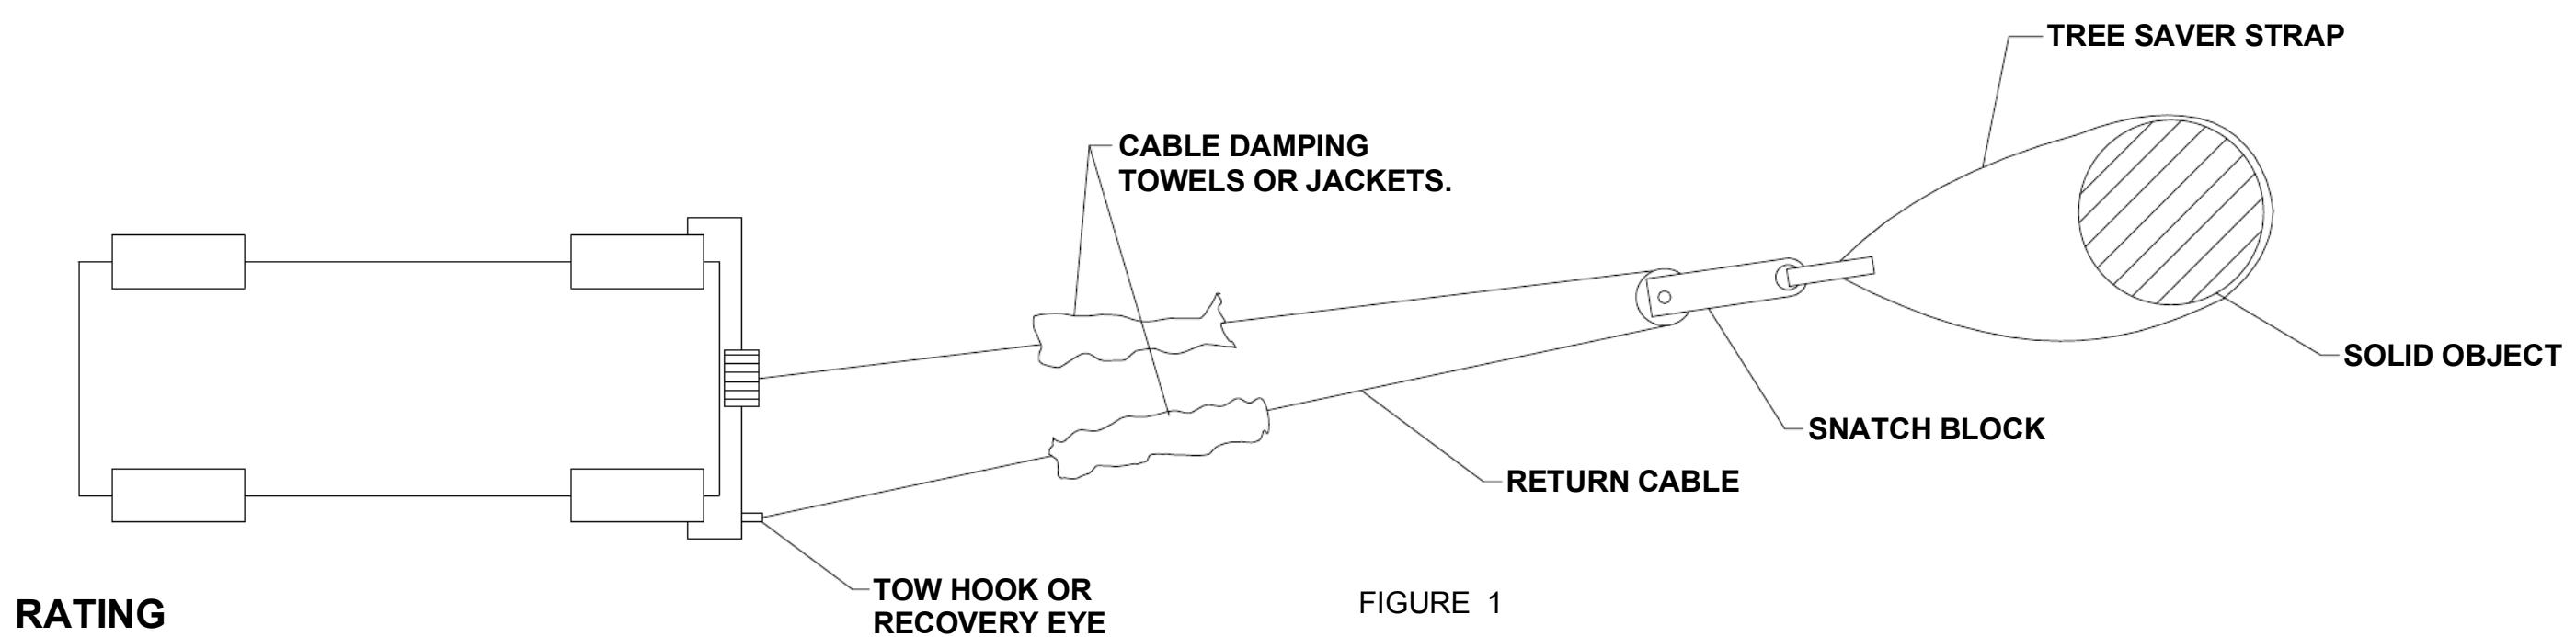

FIGURE 1
3) Attach return cable to tow hook or recovery eye when using a snatch block (See figure 1).